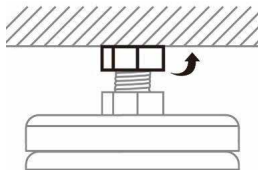

Figure 3
3. Once the height has been adjusted, tighten the upper nut to lock the feet in place. See figure 3